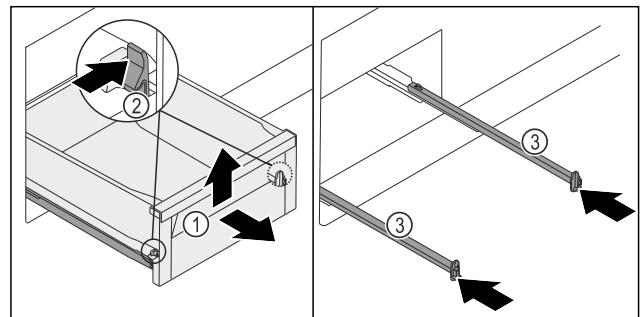

Fig. 118
- ▶ Pull the drawer Fig. 118 (1) out as far as it will go.
- ▶ Press the left and right clamp Fig. 118 (2) inwards at the same time.
- ▶ Drawer Fig. 118 (1) detaches from the rails.
- ▶ Lift up the drawer Fig. 118 (1) forwards.
- ▶ Remove the drawer Fig. 118 (1) forwards.
- ▶ Push in the rails Fig. 118 (3).